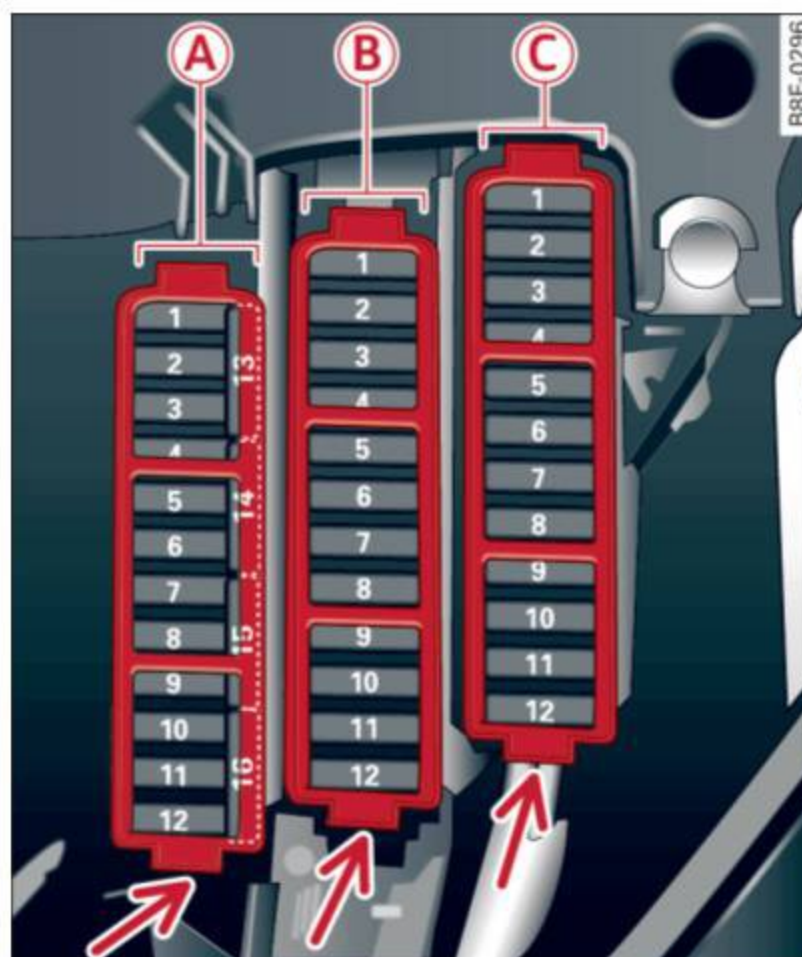

Fig. 184 Left cockpit: fuse panel with plastic clip
- ▶ To remove the purple plastic clip if necessary ¹⁾, hold onto it at the small side and pull it out of the fuse panel ⇒ *page 250, fig. 184*.